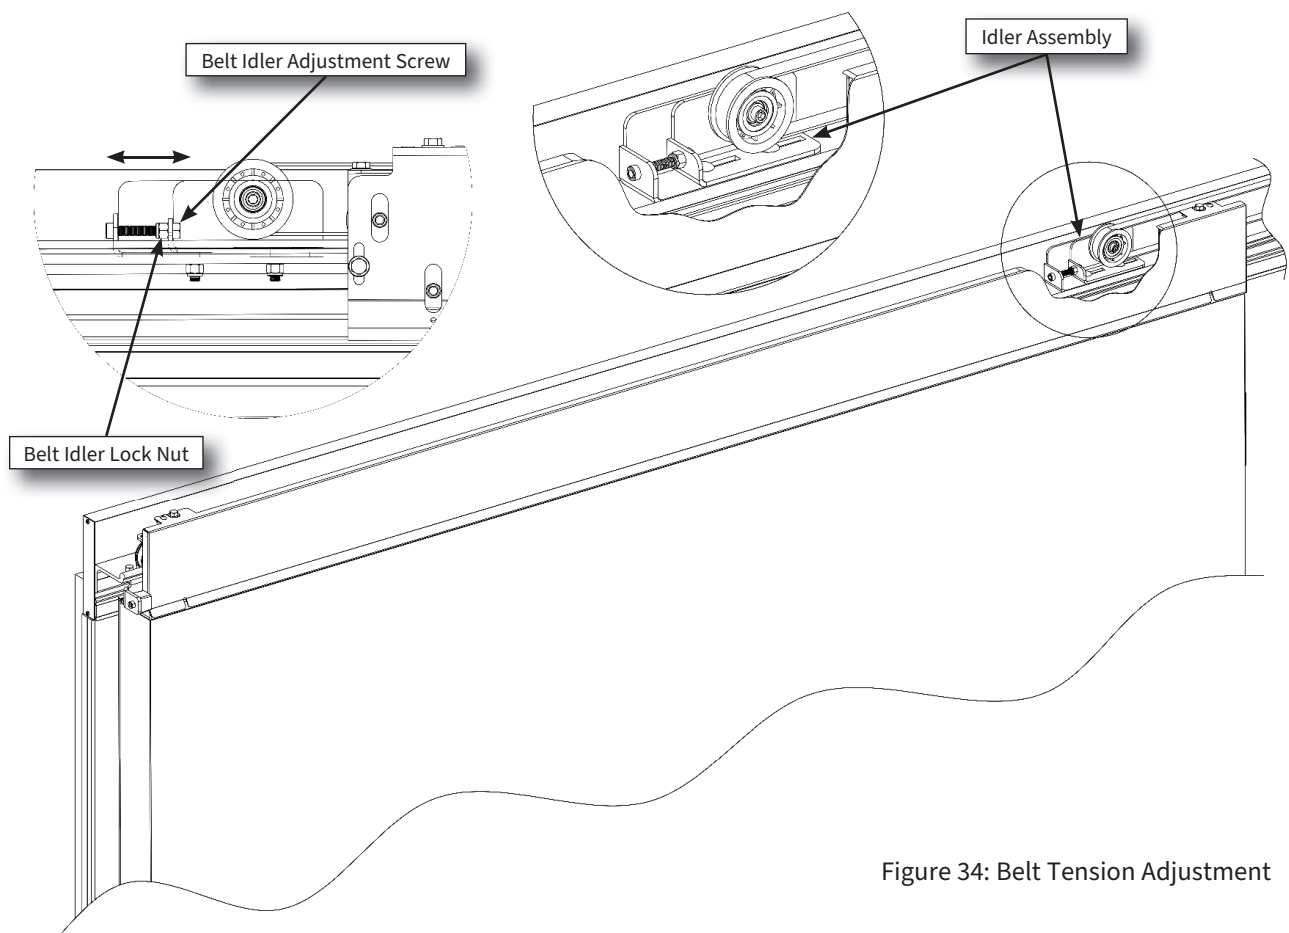

Figure 34: Belt Tension Adjustment
- 1 Locate idler assembly on header rail assembly. On RH operator doors, will be on left side of header, near end of trolley cover on LH side (Figure 34). For LH operator doors will be on RH side. Check belt tension. Belt should be reasonably tight but deflect between 1/2" to 1" at center of belt with mild finger pressure. Visually inspect belt for wear and missing or damaged teeth.